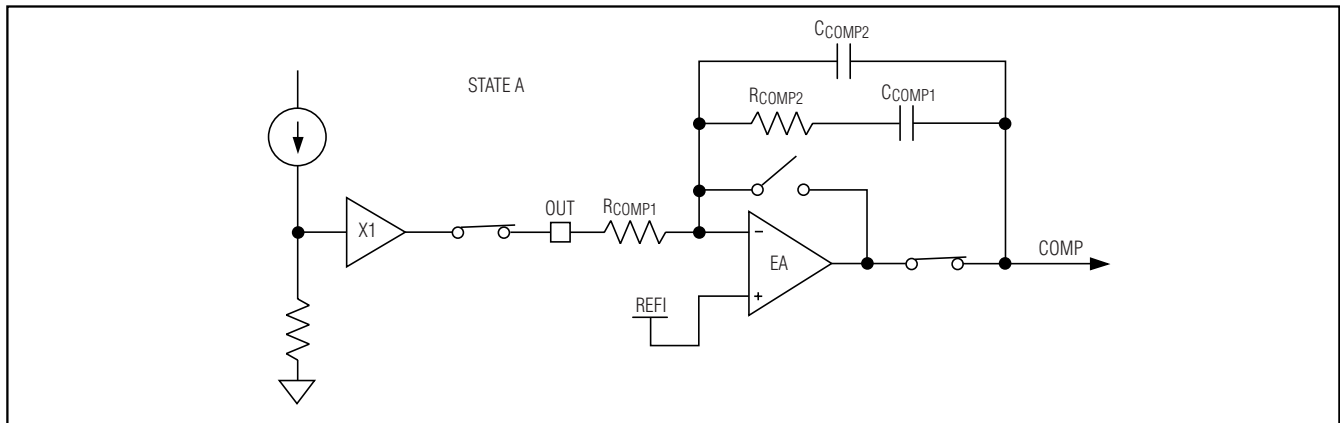
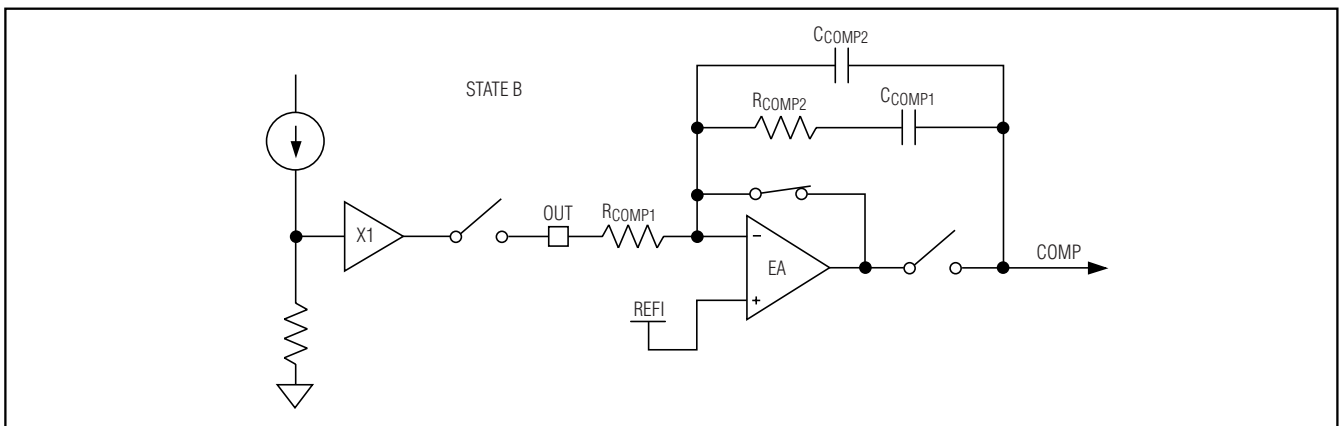
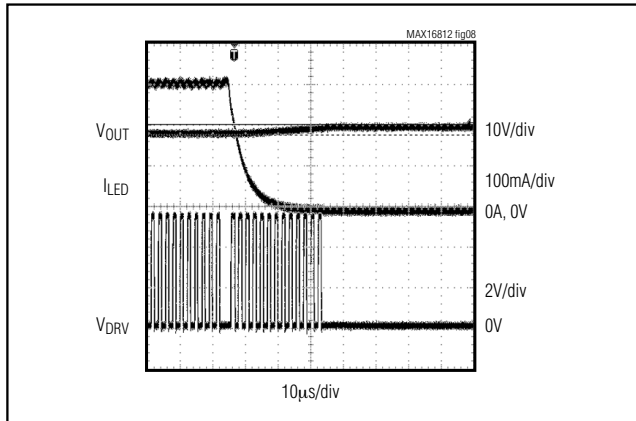

Figure 4. Internal Error Amplifier Connection (Dimming Signal High)
Figure 5. Internal Error Amplifier Connections (Dimming Signal Low)
Figure 8. LED Current, Output Voltage, and DRV Waveforms when DIM Signal Goes Low
The MAX16812 includes a built-in voltage-error amplifier, which can be used to close the feedback loop. The internal LED current-sense output signal is buffered internally and then connected to CS\_OUT through an internal switch. CS\_OUT is connected to the inverting input (FB) pin of the error amplifier through a resistor. See Figures 4 and 5. The reference voltage for the output current is connected to REFI, the noninverting input of the error amplifier. When the internal dimming signal
is low, COMP is disconnected from the output of the error amplifier and CS\_OUT is simultaneously disconnected from the buffered LED current-sense output signal (Figure 5). When the internal dimming signal is high, the output of the op amp is connected to COMP and CS\_OUT is connected to the buffered LED current-sense signal at the same time (Figure 4). This enables the compensation capacitor to hold the charge when the DIM signal has turned off the internal switching MOSFET gate drive. To maintain the charge on the compensation capacitors  $C_{COMP1}$  and  $C_{COMP2}$ , the capacitors should be of the low-leakage ceramic type.
PWM dimming can also be achieved by connecting TGRM to a DC voltage less than  $V_{REF}$  and applying the PWM signal at DIM. The moment the internal dimming signal goes low, gate drive DRV to the internal switching MOSFET is turned off. The error amplifier goes to state B (see the *Internal Error Amplifier* section and Figures 4 and 5). The peak current in the inductor prior to disabling DRV is  $I_{LX}$ . Gate drive DGT to the external dimming MOSFET is held high. Then after a switchover period, gate voltage  $V_{DGT}$  on the external dimming MOSFET is linearly controlled to reduce the LED current to 0. The fall time of the LED current is controlled by an internal timing circuit to  $5\mu s$  for the MAX16812. During this period, the gate (DRV) to the internal switching MOSFET is enabled. After the fall time, the gate drive to the external dimming MOSFET is turned off and the gate drive to the internal switching MOSFET is still held high after the switchover period. The peak current in the inductor is controlled at  $I_{LX}$ . Then after a time period of  $20\mu s$ , the gate drive is disabled. The scope shots in Figures 8–11 show the dimming waveforms.
When the DIM signal goes high, the LED current is gradually increased to the programmed value. The rise time of the LED current is controlled to  $5\mu\text{s}$  for the MAX16812 by controlling the voltage on DGT. After the rise time, an internal sensing circuit monitors the voltage across the drain to the source of the external dimming MOSFET. The LED current is now controlled at the programmed value by a linear current regulating circuit. Once the voltage across the drain to source of the dimming MOSFET drops below  $0.5\text{V}$ , the reference for the linear current regulating circuit is increased to 1.1 times the programmed value. The gate drive (DRV) to the internal switching MOSFET is enabled and the error amplifier is returned to state A (see the *Internal Error Amplifier* section and Figures 4 and 5).